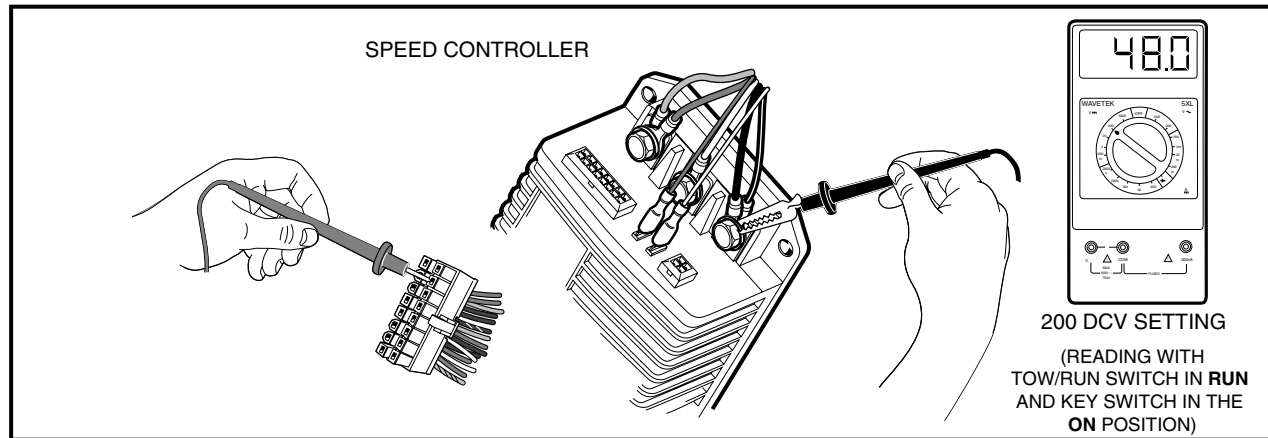

Figure 11-17 Pin 10 Test
4. Using a multimeter set for 200 volts DC, insert the red (+) probe of the multimeter into pin 10 (tan wire) of the 16-pin connector. **See following CAUTION.** Using an alligator clip, connect the black (-) probe to the B- terminal of the speed controller (**Figure 11-17, Page 11-35**).